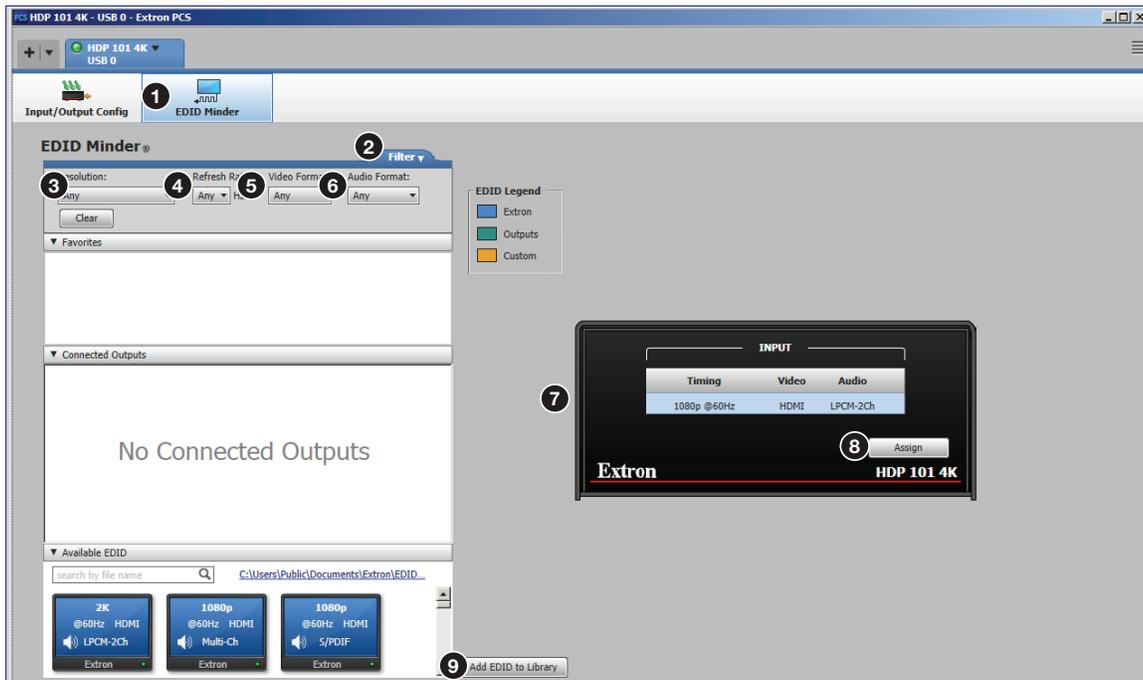
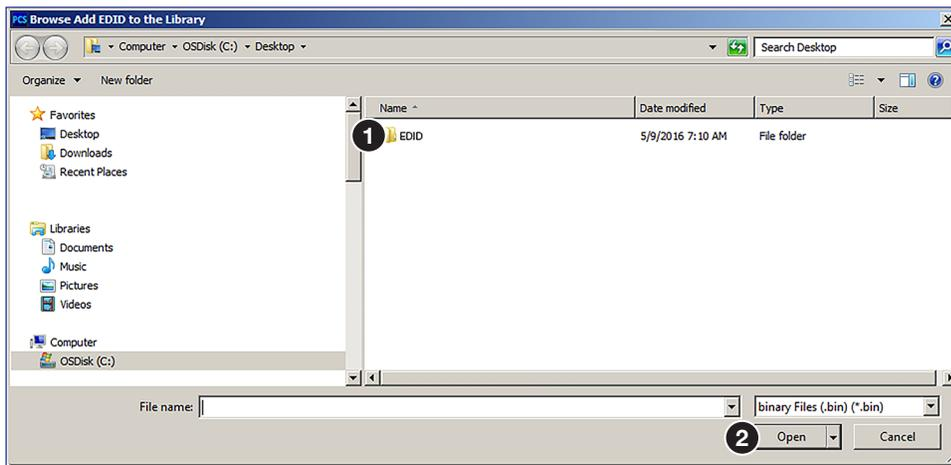

Figure 11. EDID Minder Page
Figure 12. Browse Add EDID to the Library Window
EDID Minder manages the resolution and refresh rate between the HDP 101 4K HDMI input and the DisplayPort output source. Click the **EDID Minder** icon (see figure 11, ①) on the global navigation bar to open the EDID Minder page. EDID can be set to match output rate, a custom user-defined EDID, or a factory setting.
1. From the Input box on the right (see figure 11, **7**) on the previous page), select the input.
1. Click the **Add EDID to Library** button (see figure 11, **9**). The Browse Add EDID to the Library window opens (see figure 12).
2. Navigate to the desired EDID file location and select it (see figure 12, **1**).